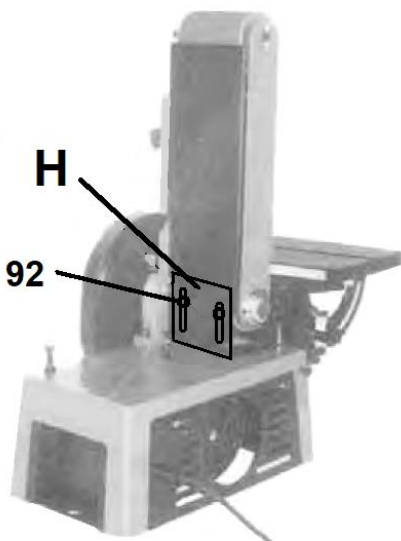

Figure 8-2: Re-positioning the cover plate
2. Loosen 2 screws (92, Fig. 8-2) and position the cover plate (H) all the way down. Tighten the screws again.